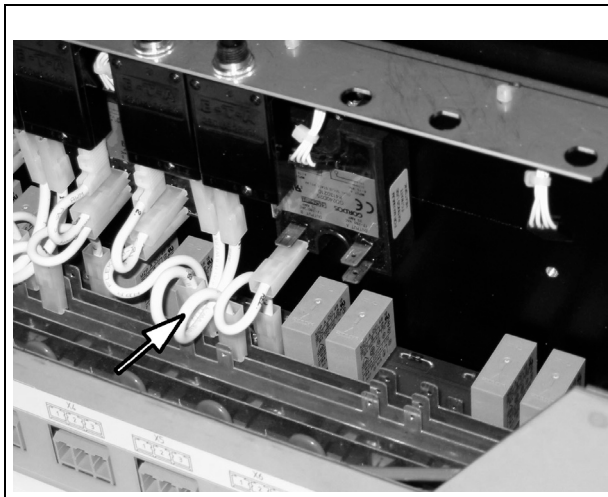

Fig. 7-2: Wiring on Conductor Bar and Overcurrent Trip
10. Push the end of the wiring marked "BR" onto the flat plug connection of the conductor bar (see Fig. 7-2, page 7-37).